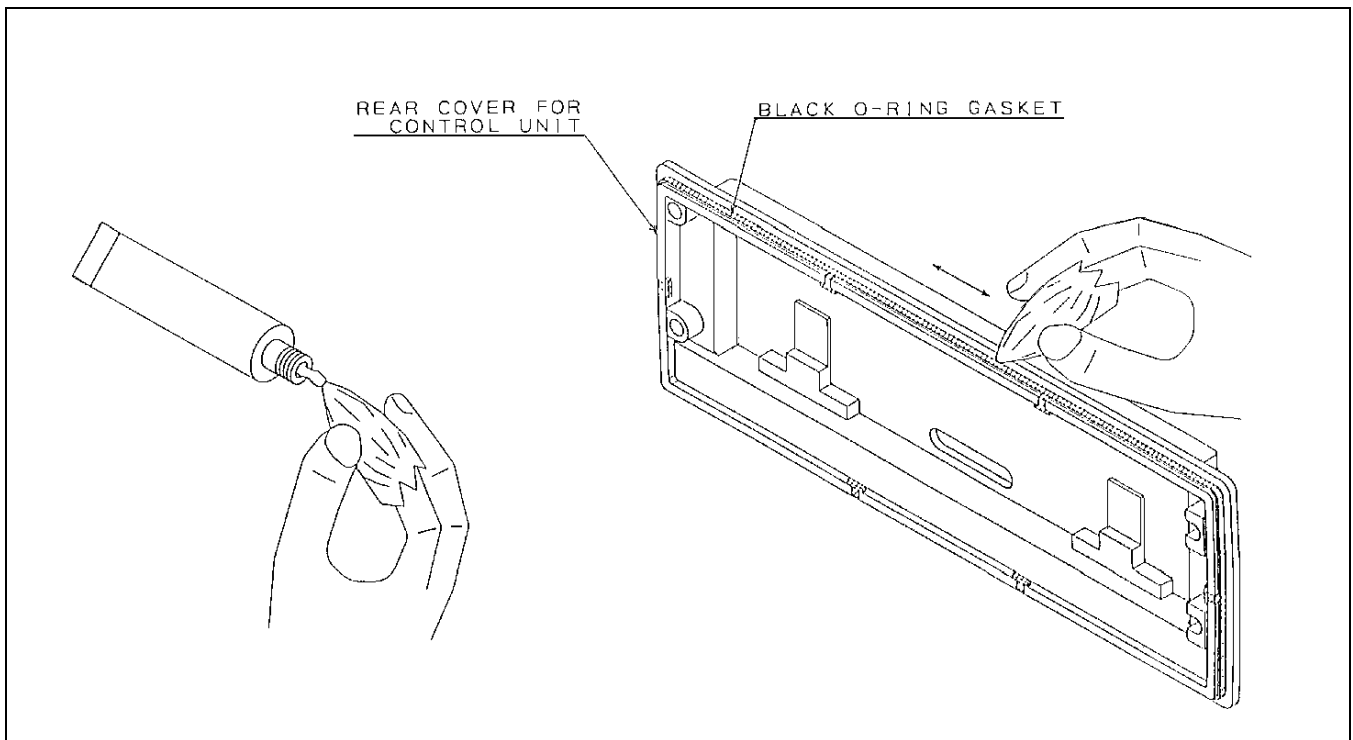

Figure 1A - Front Mount Control Unit "O-Ring" Lubrication
For re-assembly of the Control Units (Front and Remote Mounting) Revision "A" or later, be sure the black "O-Ring" is lubricated properly with "HIVAC-G" silicone grease. (See Figures 1A and 1B for instructions.)
3. Put the silicone grease on throughout the surface of the black O-Ring gasket evenly. (see Figures 1A and 1B)